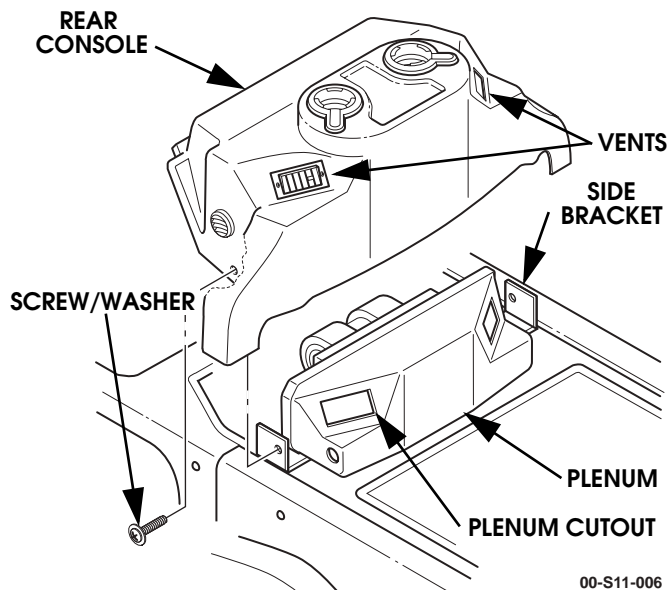

Figure 1-85: Rear Console Installation
1. Remove two screw/washers securing rear console to side brackets (Figure 1-85).
3. Secure rear console to side brackets with screw/washers (Figure 1-85).